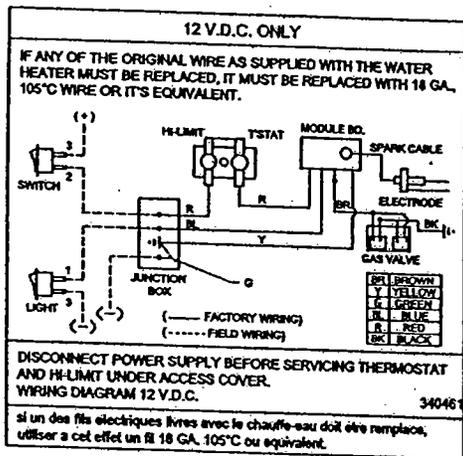

Figure 8
D. Make the 12 Volt D.C. electrical connections following the wiring diagram illustrated in Figure 8.